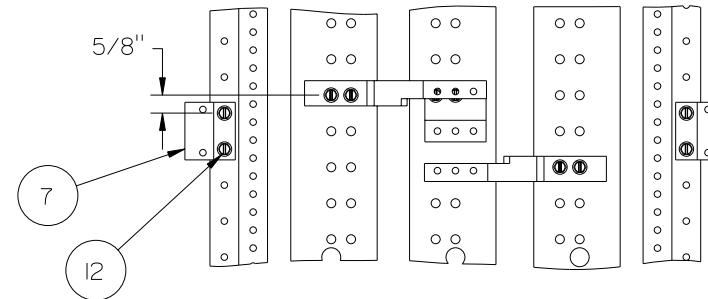

Figure 5
- Reference fig. 5 - The QJ mounting brackets (item 7) are to be mounted. Locate a 0.228" diameter hole on the left Z-rail 5/8" below the mounting screws of the A  $\phi$  strap. Insert one 1/4-20 X 3/8" screw (item 12) through the 0.312" diameter hole in the QJ mounting bracket and then into the hole in the Z-rail and tighten. Orient the QJ mounting bracket as shown, insert another 1/4-20 X 3/8" screw through the second 0.312" diameter hole in the QJ mounting bracket and then into a 0.228" diameter hole in the Z-rail and tighten. Repeat the same steps to install the second QJ mounting bracket onto the right hand Z-rail. Torque all screws as specified on the rear of the dead front.